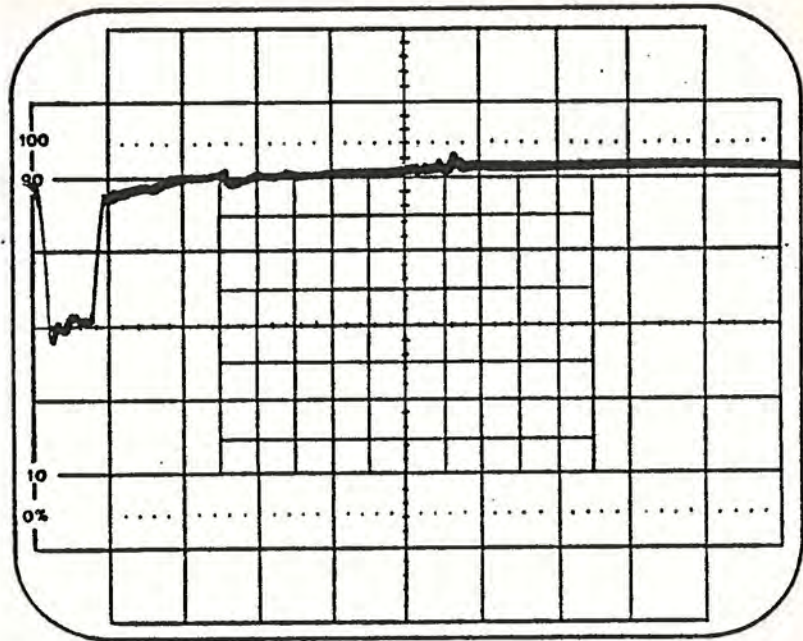

Figure 3-3
- 5) Check TP-3 for 80 to 90ns pulse (Figure 3-3).